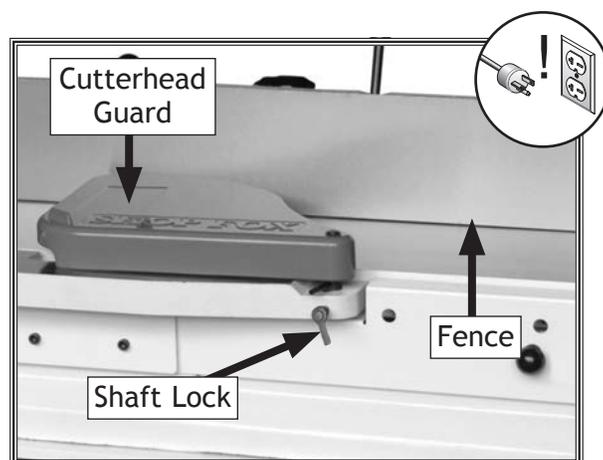

Figure 65. Cutterhead guard components.
2. Set fence to 90° and move it all the way back, then pull cutterhead guard (see **Figure 65**) back and let it go.
3. Loosen shaft lock (see **Figure 65**). Move guard so it is resting against fence, and $\frac{1}{16}$ " above infeed table.